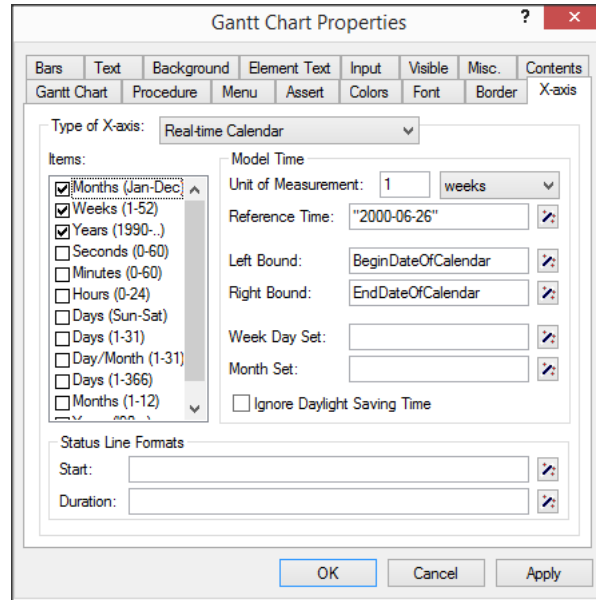

Figure 12.20: The X-axis tab of the **Gantt Chart Properties** dialog box
- ▶ check 'Weeks', 'Months' and 'Years' as in Figure 12.20,